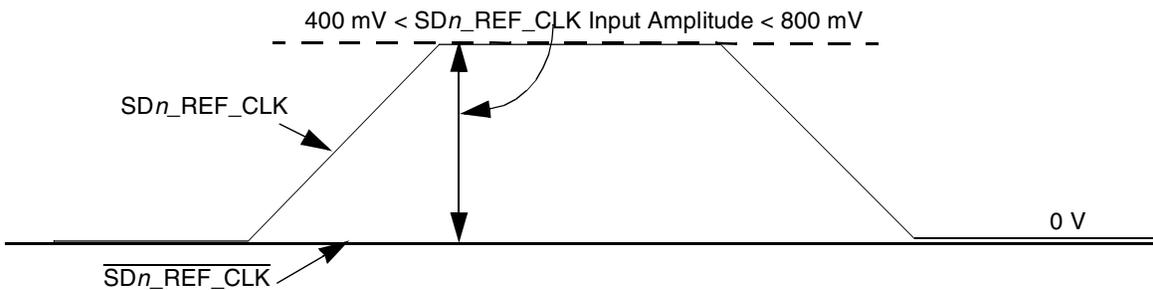

Figure 52. Single-Ended Reference Clock Input DC Requirements
- The SD_n_REF_CLK input average voltage must be between 200 mV and 400 mV. Figure 52 shows the SerDes reference clock input requirement for single-ended signaling mode.